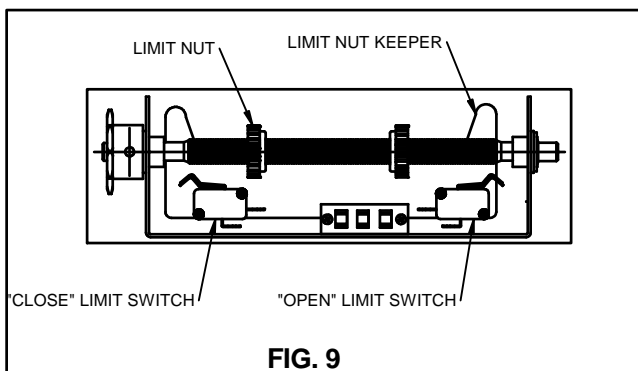

FIG. 9
This operator has been supplied from the factory with constant pressure to close. It is advisable that you test the operator and set limit switches in this mode. With quick release arm still disconnected, turn power on to operator and press open button. This insures that the operator is running in the correct direction. Press Stop button after unit has run a few feet, then close the operator so the trolley carriage is within 6" of front mounting bracket and attach quick release arm to trolley carriage. Set close limit at this position by depressing limit nut keeper and turning nut towards the close limit switch (see Fig. 9) until limit switch is activated (clicks). **Note:** In certain applications the limit switches may be reversed from what is shown. At this time the clutch must be adjusted, see clutch adjustment.
5. If necessary, adjust limit nuts as described in Fig. 9.